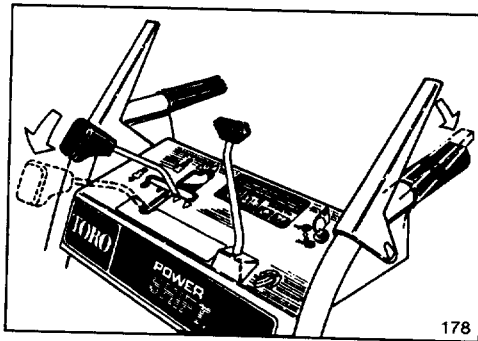

Figure 17
2. To move wheels to front or rear position, move shift control fully forward to Power Shift position and hold (Fig. 17).
3. Fully engage traction drive lever to move wheels into alternate position (Figs. 17 & 18).